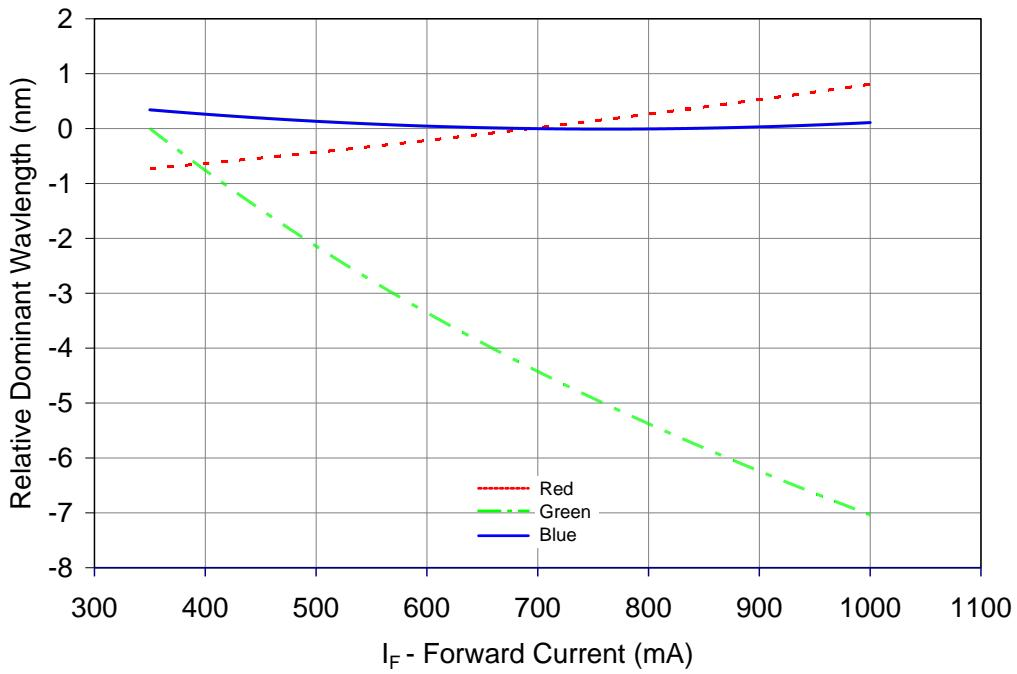

Figure 6: Typical dominant wavelength shift vs. forward current @ $T_c = 25^\circ\text{C}$.
3. Refer to Figure 6 for typical dominant wavelength shift over forward current.
Notes for Figure 6: